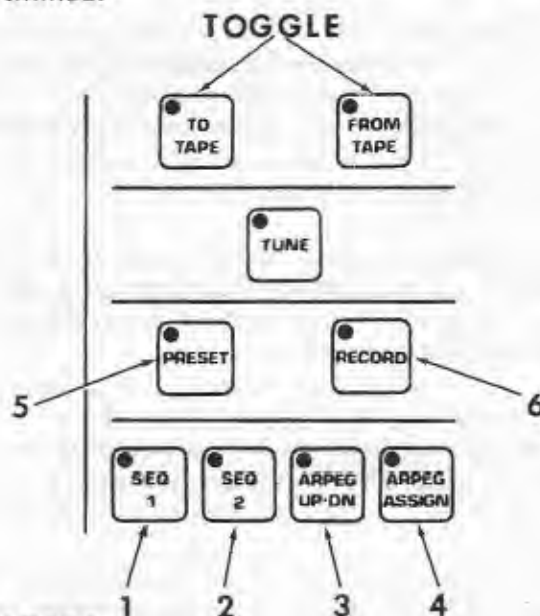

Figure 9-1
7. Either the TO TAPE or FROM TAPE LED will be lit, and the SEQ 1 LED is lit. The system is now waiting for you to trim OSC 1A. As shown in Figure 9-1, six control switches now serve to indicate which voice is being scaled. SEQ 1 being lit means that Voice 1 should now be trimmed.